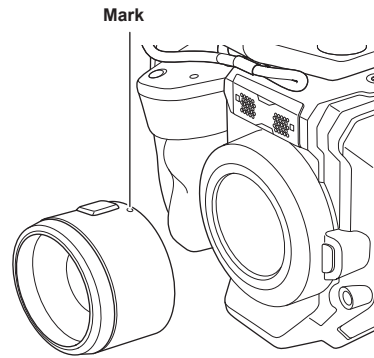

Fig. 2
- 3** Insert the lens into the EF lens mount with the mark on the lens (red dot) facing up. (Fig. 2)